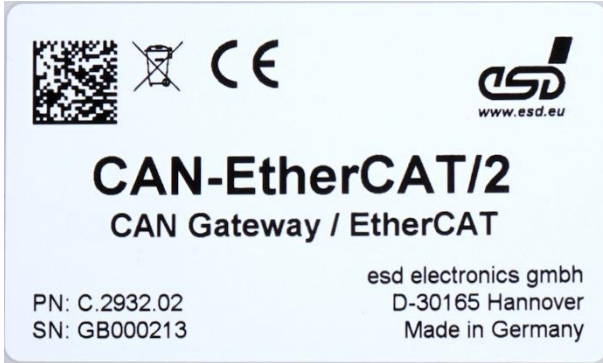

Figure 4: CAN-EtherCAT/2 product label (Example CAN CC variant)
The product label (Figure 4) shows among others the name, esd order No. (PN) and the serial number (SN).